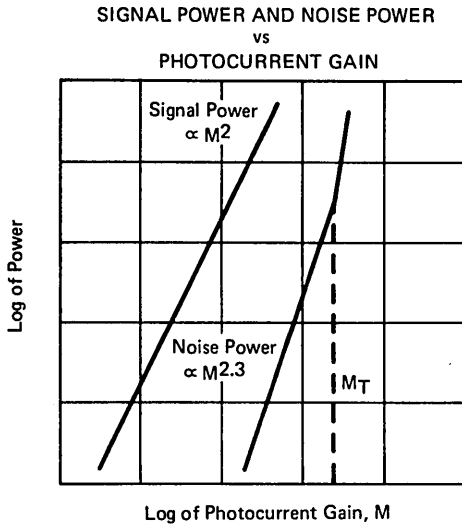

FIGURE 1
3. Gain M_T is measured at the reverse voltage at which the noise deviates from the theoretical linear characteristic. See Figure 1. Radiant flux is as required to give a photocurrent of 0.1 nA rms at V_R = 20 V.